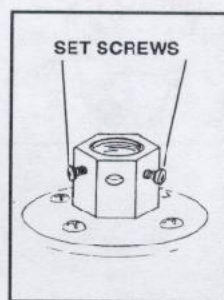

FIG. 7
**Step 2.** Loosen the two set screws in the top coupling of the top housing assembly. (Fig. 7)